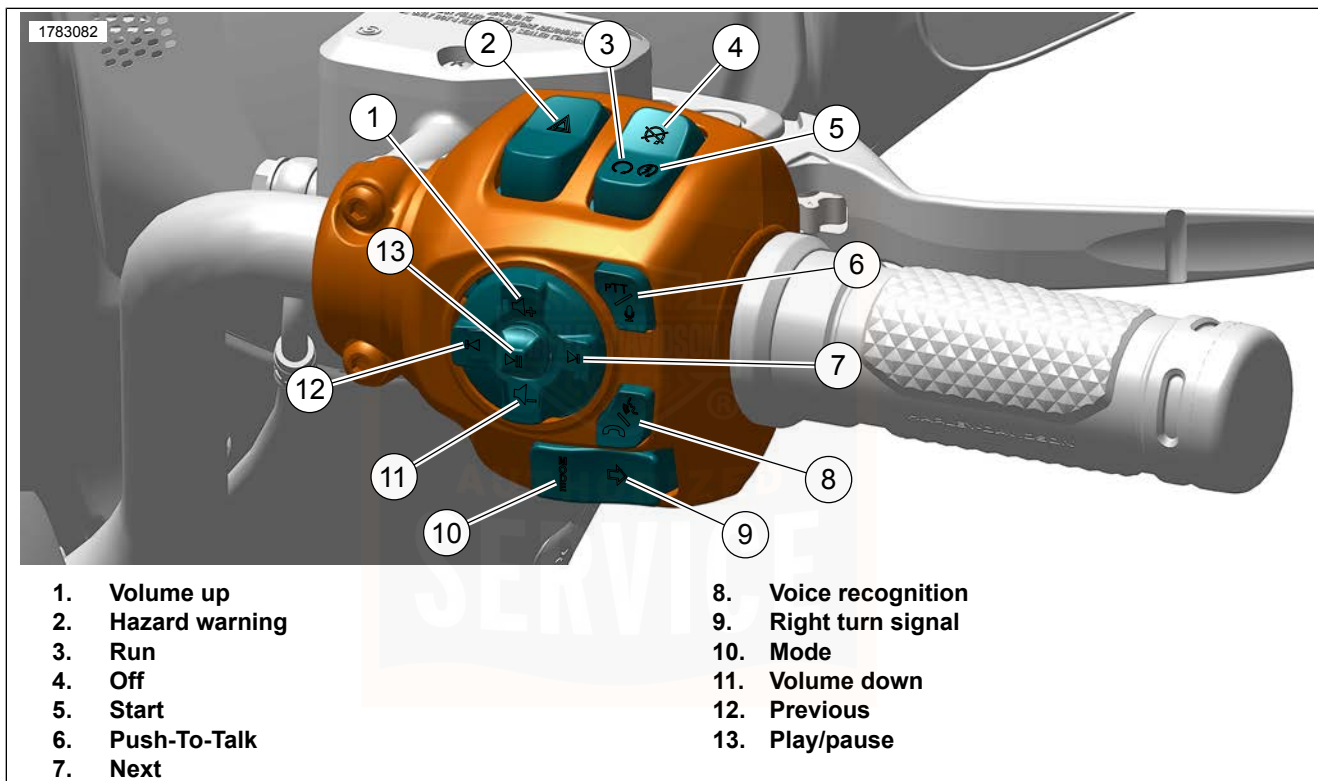

Figure 30. Right Hand Control Module (RHCM)
See Figure 30. The hazard warning switch (2) is used to leave a stranded motorcycle in the 4-way flashing mode. With the flashers, the motorcycle can be left with the ignition off until assistance is found. Refer to Table 26.
1. With the OFF/RUN/START switch in the RUN (3) position, press the hazard warning switch to activate the 4-way flashers.
See Figure 30. Press the engine OFF/RUN/START switch to OFF (4) to shut off the engine. Refer to Table 26.
See Figure 30. Push the engine OFF/RUN/START switch to RUN (3) to enable engine start and run. The engine OFF/RUN/START switch must be in the RUN position to start or operate the engine. Refer to Table 26.
See Figure 30. Press the right turn signal switch (9) to activate the right turn signal. Refer to Table 26.
See Figure 30. Press the volume up (1) button to increase volume. Refer to Table 26.
See Figure 30. Press the next button (7) to select the next media file. Refer to Table 26.
See Figure 30. Press the volume down (11) button to decrease volume. Refer to Table 26.
See Figure 30. Press the previous button (12) to select the previous media file. Refer to Table 26.
See Figure 30. Press the play/pause button (13) to play or pause the current media file. Refer to Table 26.
See Figure 30. The Push-To-Talk (PTT) switch (6) is used to operate the rider/passenger intercom on equipped vehicles. Refer to Table 26.
1. See Figure 30. Switch the OFF/RUN/START switch to RUN (3). Shift the transmission to neutral. The neutral (green) indicator illuminates. See Operation > Starting the Engine (Page 112).
2. Press the OFF/RUN/START switch to START (5) to operate the starter motor. Refer to Table 26.
See Figure 30. The voice recognition switch (8) activates the voice recognition features on a connected mobile device. Refer to Table 26.
See Figure 30. Press the mode button (10) to change the ride mode. See Operation > Ride Modes (Page 103). Refer to Table 26.
See Figure 30. Use the Right Hand Control Module (RHCM) buttons to navigate volume up (1), volume down (11), next (7), previous (12), play/pause (13) on the RHCM to adjust audio media settings. See Owner Manual > Infotainment Control Unit (IFCU) Operation (Page 133).